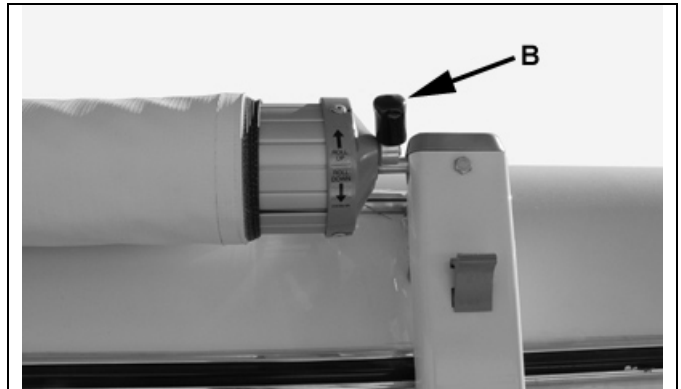

Figure 10-3 – Lock Lever
- Use the pull rod provided and pull lock lever (B) downward to release awning lock. See figure 10-3.